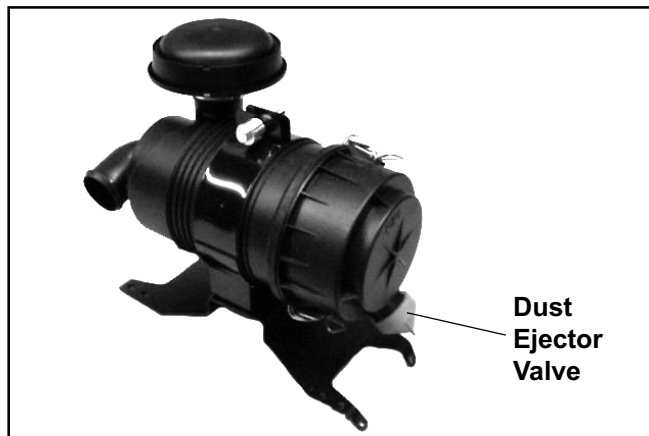

Figure 13. Heavy-Duty Air Cleaner Assembly.
7. Reinstall the end cap so the dust ejector valve is down and secure with the two retaining clips. See Figure 13.